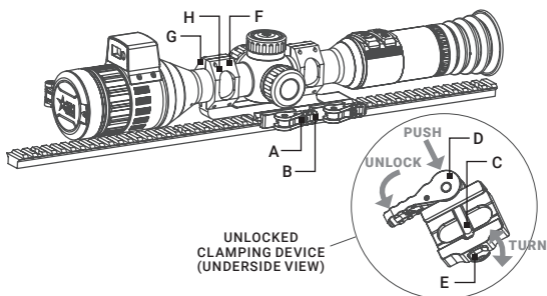

FIGURE 2-6. INSTALLATION WITH QUICK RELEASE MOUNT
The Spectrum LRF 4K scope can be mounted on a Picatinny/Weaver rail using optional AGM quick release (QR) mount (Figure 2-6).
1. Unlock the clamping devices of the QR mount by pushing down on the lever holders (A) and unlocking the levers (B).
2. Install the mount on the Picatinny/Weaver rail so that the stops (C) slide into the transverse slots on the rail.
3. Affix the mount to the rail by locking the levers (B).